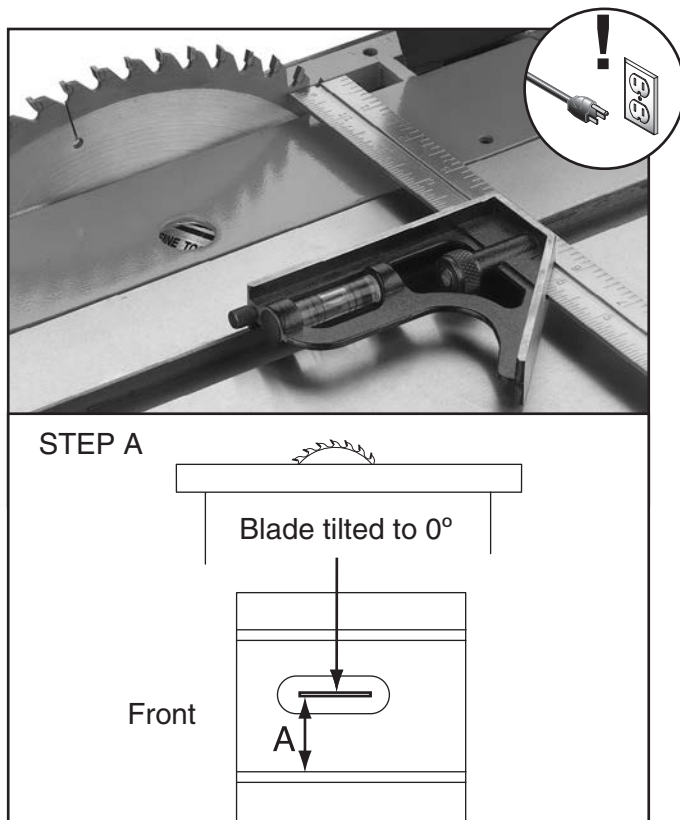

Figure 110. Example of adjusting blade to miter slot.
2. Tilt blade to 0°, then use an adjustable square to measure distance from miter slot to a carbide tip on blade, as shown in **Figure 110**. Make sure that face of adjustable square is even along miter slot.